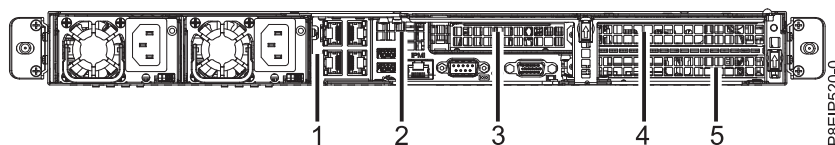

Figure 39. 8001-12C PCIe adapter positions
2. Refer to the PCIe adapter positions as shown in Figure 39.